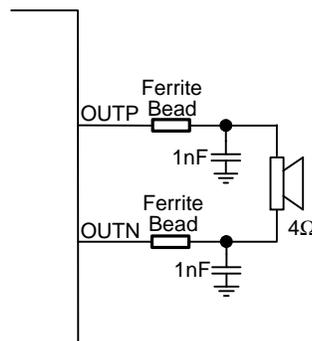
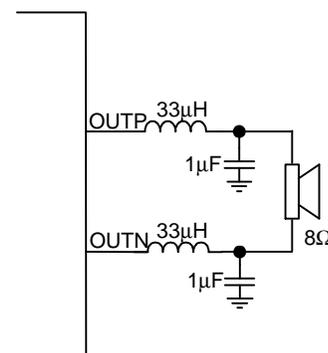
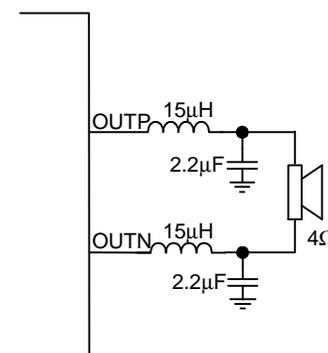

Figure 3. Ferrite Bead Output Filter
Figure 4. Typical LC Output Filter, Cutoff Frequency of 27 kHz, Speaker Impedance =  $8\Omega$
Figure 5. Typical LC Output Filter, Cutoff Frequency of 27 kHz, Speaker Impedance =  $4\Omega$
Figure 4 and Figure 5 are examples for added the LC filter (Butterworth), it's recommended for the situation that the trace from amplifier to speaker is too long, and needs to eliminate the radiated emission or EMI.
4. Output filter—The ferrite EMI filter (Figure 3) should be placed as close to the output terminals as possible for the best EMI performance. The LC filter (Figure 4 and Figure 5) should be placed close to the outputs. The capacitors used in both the ferrite and LC filters should be grounded to power ground.